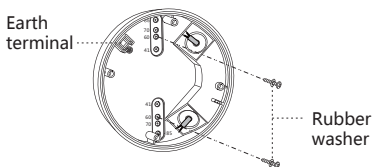

FIG.15
- Choose proper knockouts to fix the junction box KDP3/5 FP on the surface of ceiling board with 2pcs wood screws attached with rubber washer (See FIG.15).